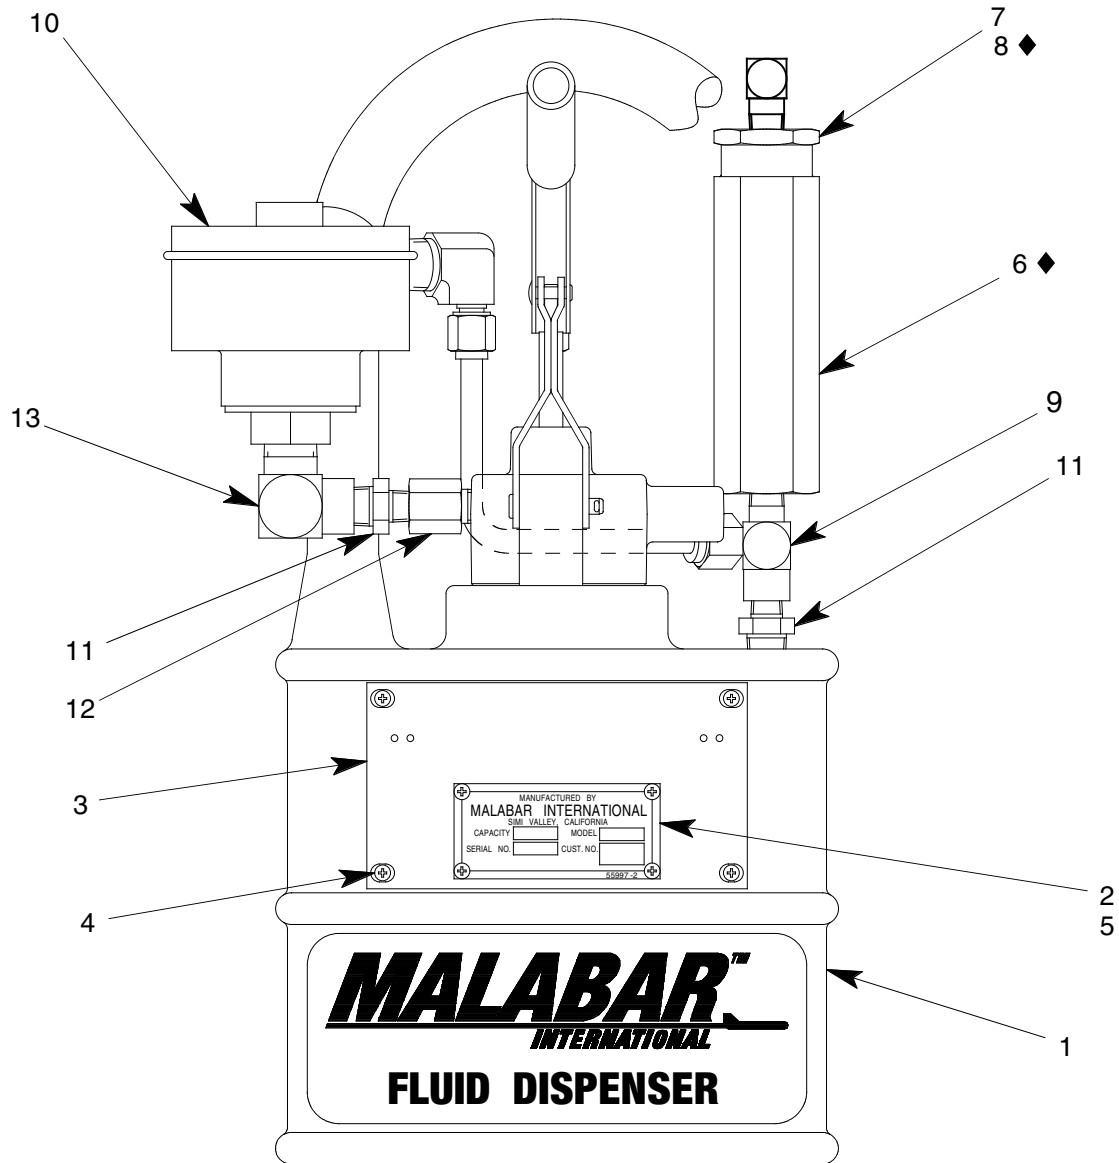
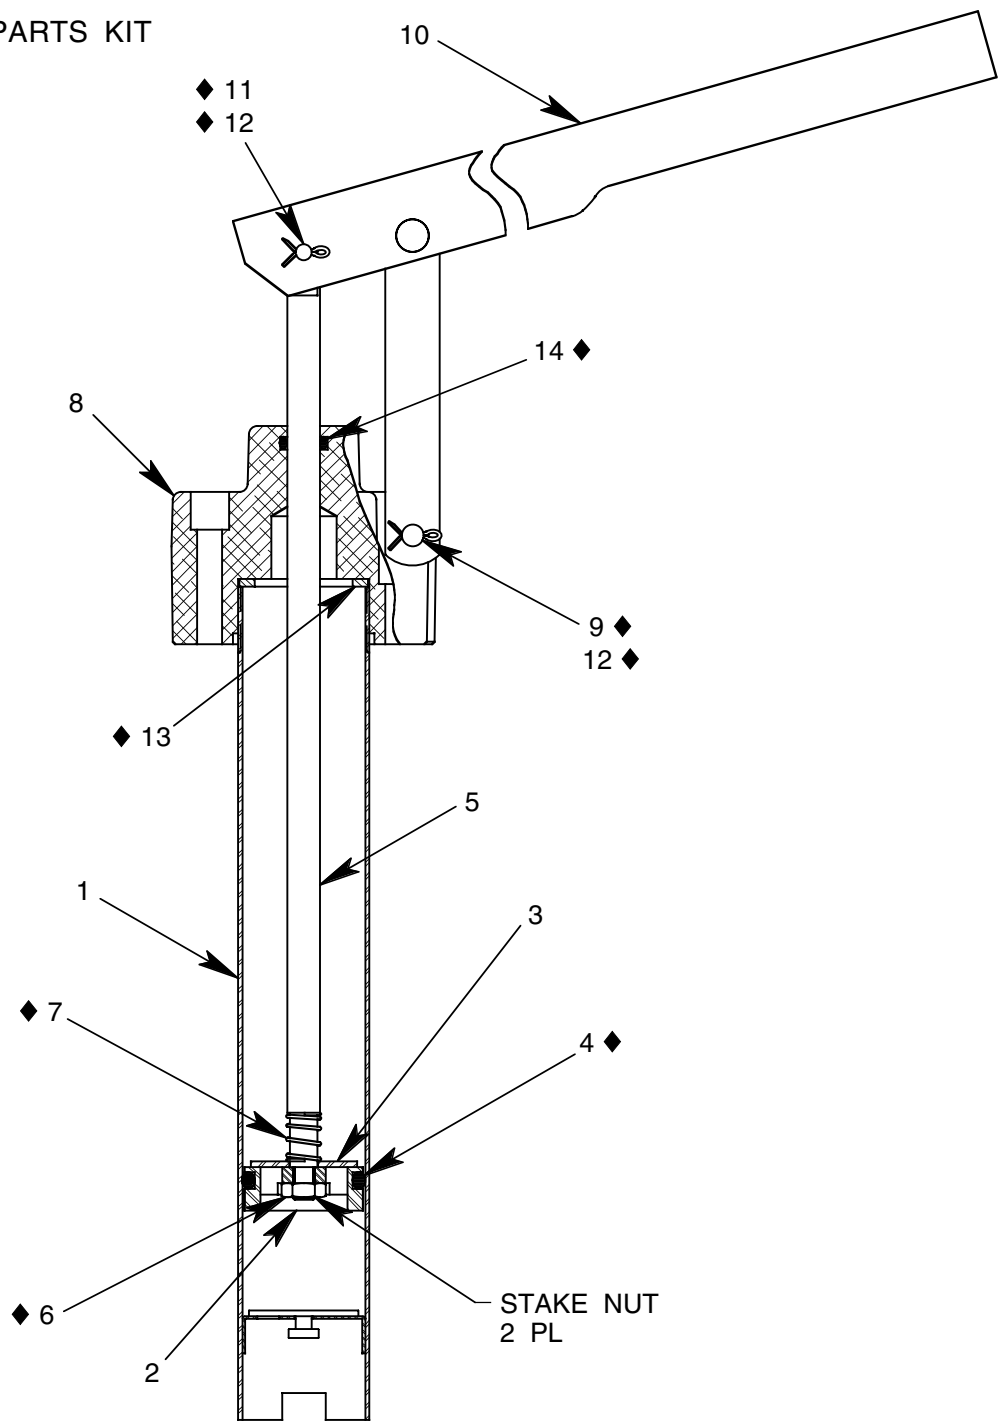

FIGURE 1A
FIGURE 2
Refer to figure 1A & 1B for unit assembly (see sheets 3 & 4) or figure 2 for pump assembly (see sheet 5).
1. The frequency of filter change depends on operating conditions. Generally, changes should be made every 3-4 months or sooner if more than normal resistance is felt on the pumping stroke at low pressure. Refer to item 6 in figure 1A (see sheet 3) to change element.